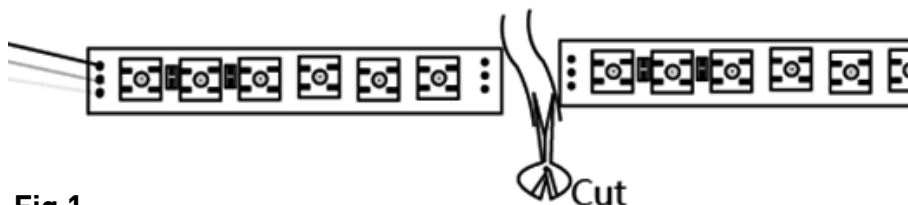

Fig 1
- When cutting the LED Flex, ensure it is only cut along the line indicated between the copper connections, approximately every 83mm along the strips' length (see Fig 1)